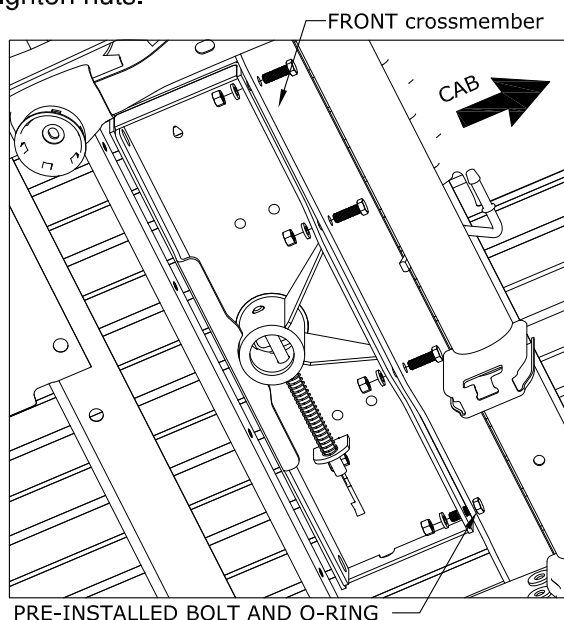

Figure B10: View under the center section looking from in front of the axle on the passenger side.
5. **Attach the front crossmember to the center.** Slide the front crossmember back against the center section so that the bolt installed previously in the front crossmember goes into the center section hole directly across from it. Line up the rest of the holes and attach the two members with $\frac{1}{2}$ X $1\frac{1}{2}$ " long bolts, lock washers, and nuts as shown in Figure B10. Hand tighten nuts.